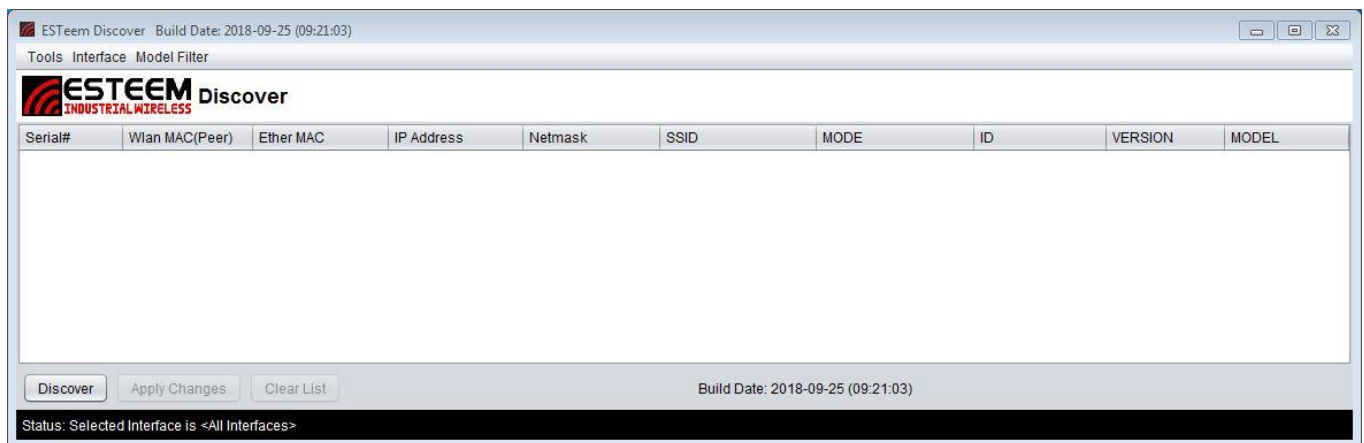

Figure 1: ESTeem Discovery Utility
2. Once both the above programs have been installed, save the estDiscover.exe file to any location on your computer such as the Desktop. Double click the estDiscover.exe program and Figure 1 will be displayed.